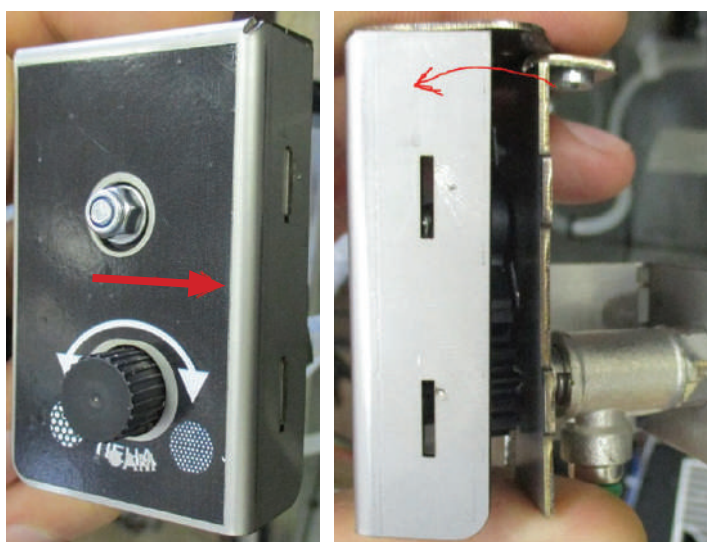

Fig.4.11
3. Displace the enclosure and remove it from the valve body (fig. 4.11).